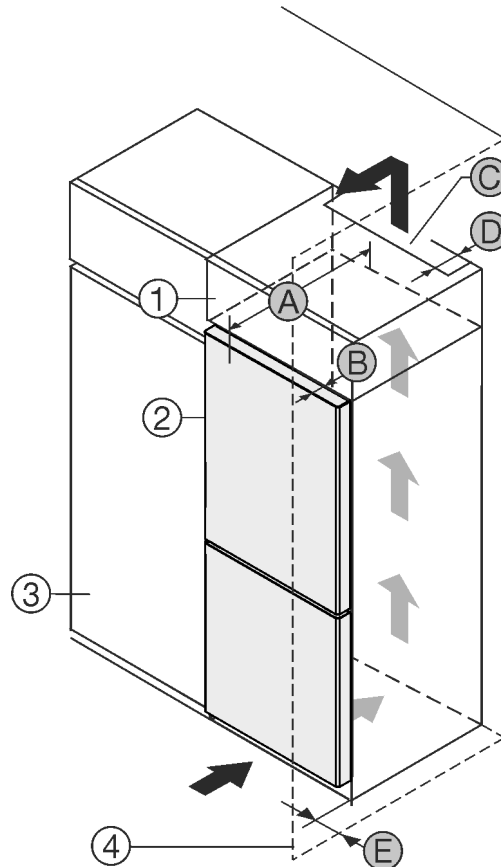

Fig. 1
You can place the appliance directly beside the kitchen cabinet Fig. 1 (3).
There must be a ventilation shaft at the depth Fig. 1 (D) of the back of the top cupboard over the entire width of the top cupboard.
The ventilation cross-section Fig. 1 (C) must be maintained under the ceiling.
If the appliance is set up with the hinges next to a wall Fig. 1 (4), the distance between the appliance and the wall must be at least 13 mm.
If the appliance is set up with the hinges next to a wall Fig. 1 (4), the distance between the appliance and the wall must be at least 20 mm.
In order to be able to fully open the door, the appliance must protrude by the depth of the door Fig. 1 (B) from the front of the kitchen cabinet. The appliance may protrude further depending on the depth of the kitchen cabinets Fig. 1 (3) and whether wall spacers are used.